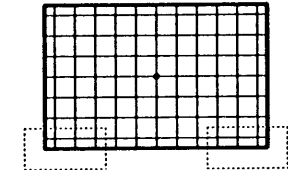

FIG. 15
27. RJ75 (KEY) controls the blue line along the bottom of the screen. Adjust RJ75 so that the bottom line at the right and left hand sides become equal distance and on the same side of the green. See Fig. 15.